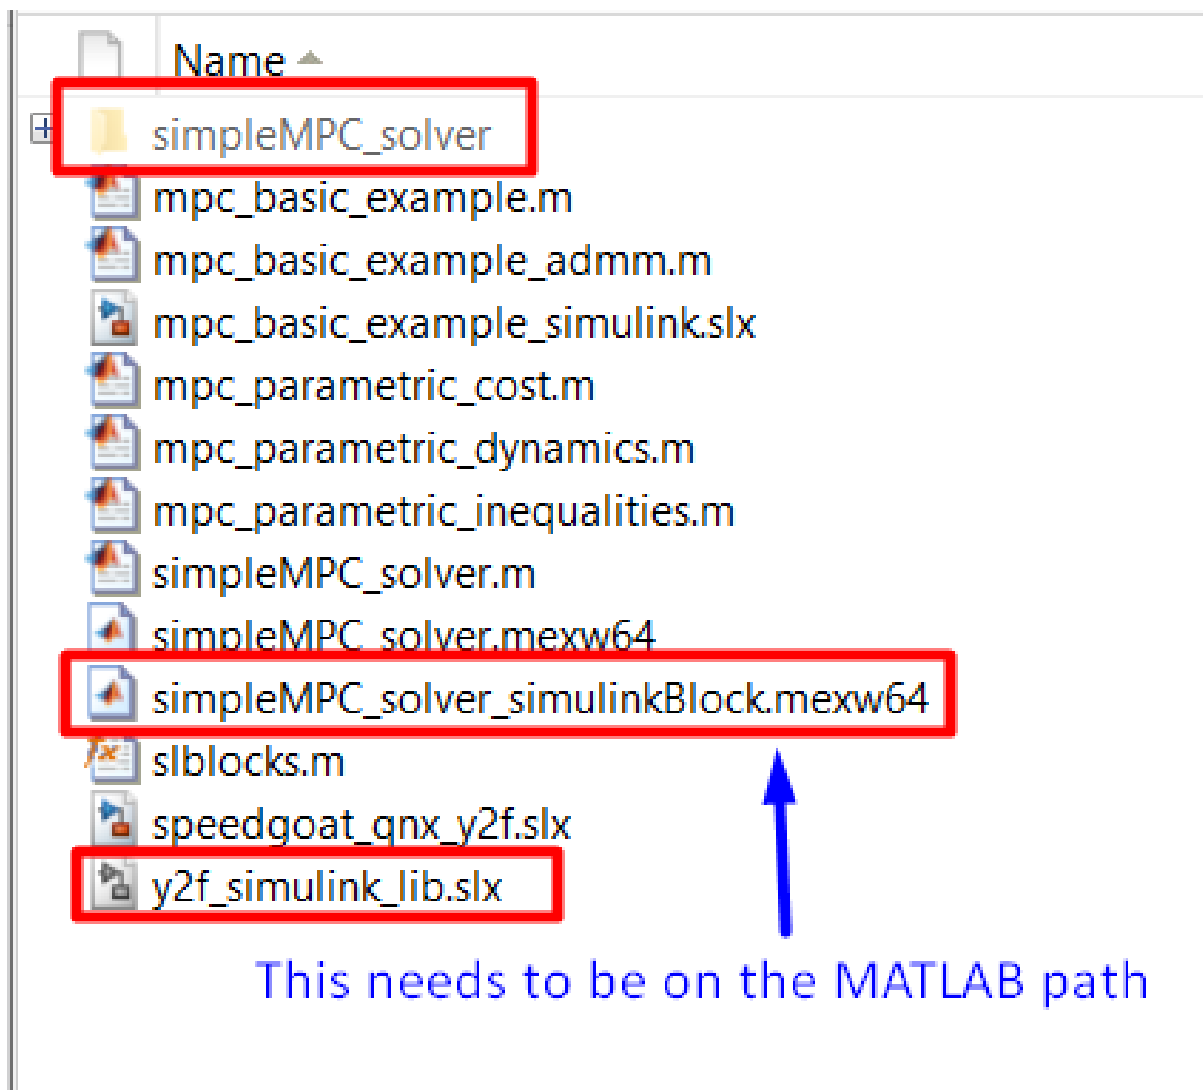

Figure 13.105: Add the folder containing the .mexw64 solver file to the Matlab path.
4. (Figure 13.105) Make sure the `simplempc_solver_simulinkBlock.mexw64` file (created during code generation) is on the Matlab path.